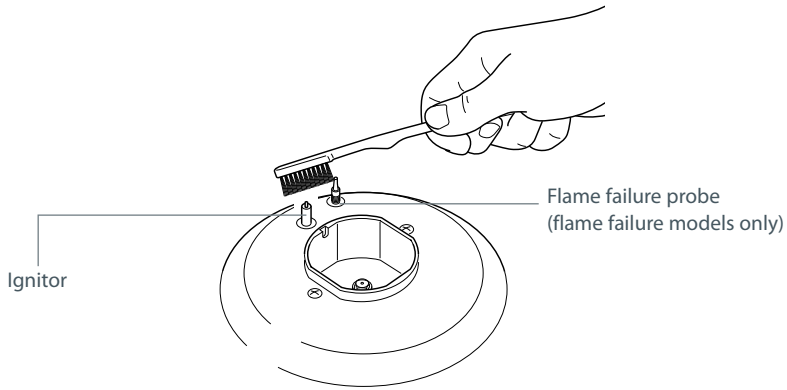

Fig.16 Cleaning the ignitor and probe
Some cooktop models have a flame failure safety device. These models have a flame failure probe as well as the ignitor (see Fig 16).
- The ignitors are sparking. If the ignitors are not sparking, they may be dirty or wet. Clean them with a toothbrush and methylated spirits, as shown in Fig. 16.
- Both the ignitor and probe must be very carefully cleaned using a toothbrush and methylated spirits (Fig.16).